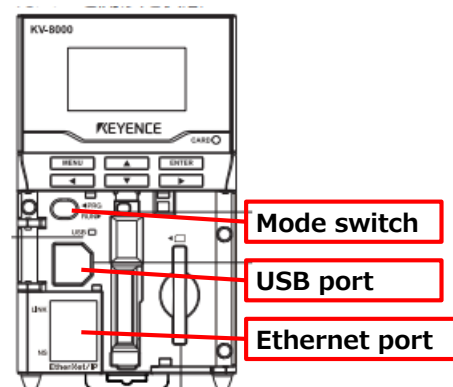

Fig 1 Front panel of KV-8000
Set the mode switch on the KV-8000 to PROG (Fig 1).
- ① Click on [Monitor/Simulator] -> [Transfer to PLC -> Monitor mode].
- ② When the “PLC error: [No Ladder Program]” dialog box appears, click on Clear.
- ③ Transfer program: Click on Select all, and check to “Clear program/variable in PLC”.
- ④ Operation recorder save: Exit.
- ⑤ Set the mode switch on the front panel of KV-8000 to RUN (Fig 1).